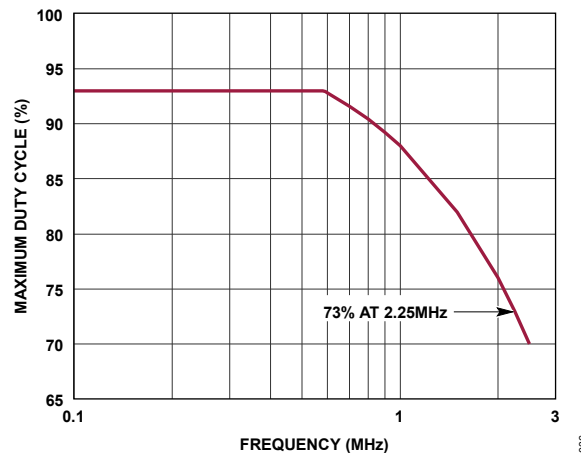

Figure 36. Relationship between Maximum Duty Cycle and Operating Frequency
A further constraint on the operating frequency is due to the maximum duty cycle of the converter. The maximum duty cycle, which can be approximated as $DC_{MAX} = V_{OUT}/(V_{OUT} + |V_{IN(MIN)}|) \cdot 100\%$ where V_{OUT} is referenced to ground, is limited as shown in Figure 36. At low frequencies, the output will lose regulation if the required duty cycle is higher than 93%. At high frequencies, the maximum duty cycle available to maintain constant frequency operation is reduced further. In this region, if a higher duty cycle is required to keep the output voltage in regulation, the controller will skip the top MOSFET (TG) turn-on and keep the bottom MOSFET (BG) on for more than one clock cycle
to achieve the higher duty cycle at an effectively lower frequency. Choose a frequency that limits the maximum duty cycle to a value lower than the curve shown in Figure 36.